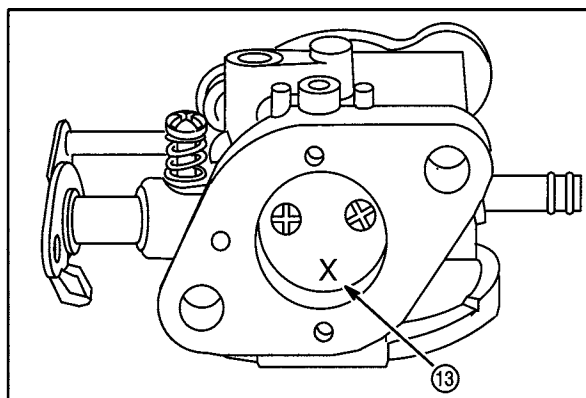

Fig. 28
9. The top and bottom edges of the throttle plate are beveled. Mark throttle plate (13) before removing to ensure reinstallation in the original position, Fig. 28.